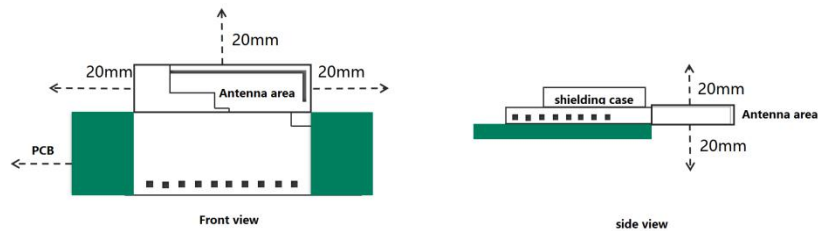

Figure 4. Suggested Module Placement Region
- X-C13SG Physical Dimensions (Unit: mm),please refer to Figure 4: